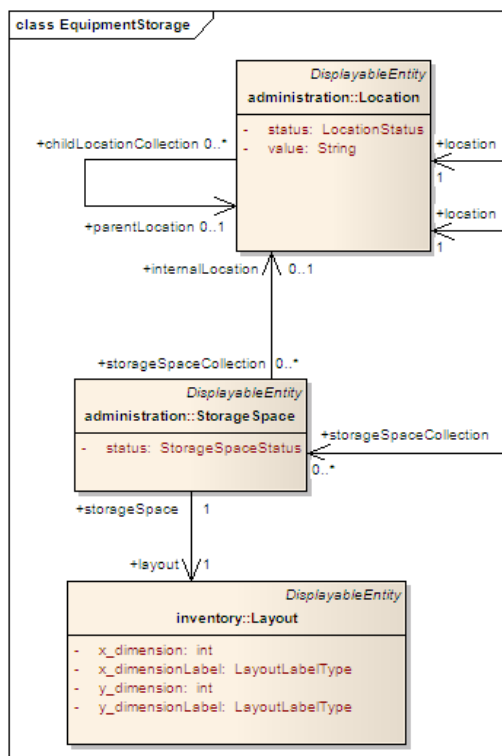

Fig 2: StorageSpace, Layout and Location
- b) **StorageSpace:** A StorageSpace is a physical area or fixed structure such as a Cold Room, Cabinet, Compartment or Shelf. A StorageSpace may be subdivided into one or more areas defined by an internalLocationCollection (see Fig 2) and a Layout. The physical location of a StorageSpace is defined by a Location entity (scenario 2). Note that every StorageDevice contains at least one StorageSpace (e.g. a Freezer [StorageDevice] contains one or more Compartments [StorageSpace]).